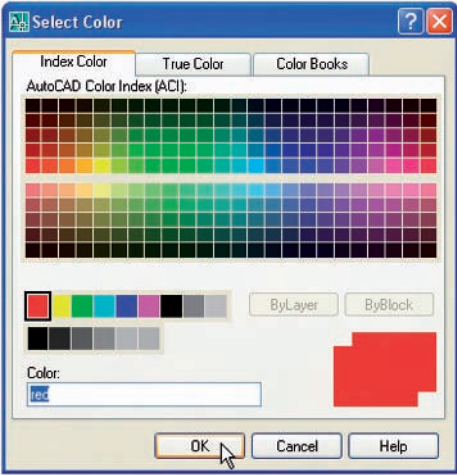

Fig. 4.19 The Select Color dialog
4. *Click* against one of the squares under the **Color** column of the dialog. The **Select Color** dialog appears (Fig. 4.19). *Double-click* on one of the colours in the **Index Color** squares. The selected colour appears against the layer name in which the square was selected. Repeat until all the five new layers have a colour.